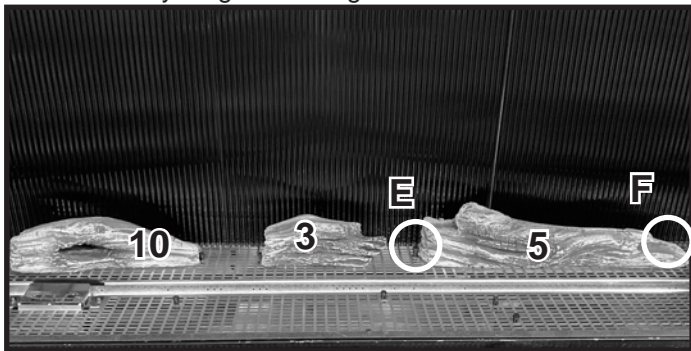

Figure 3 Install Log #5
**Log #5:** Place the left side of Log #5 against log pin (E). For See Through models and those using black glass refractory, pivot the right side back until it contacts log pin (F). See Figure 3. For installations with fiber refractory, the back right side will contact the refractory.